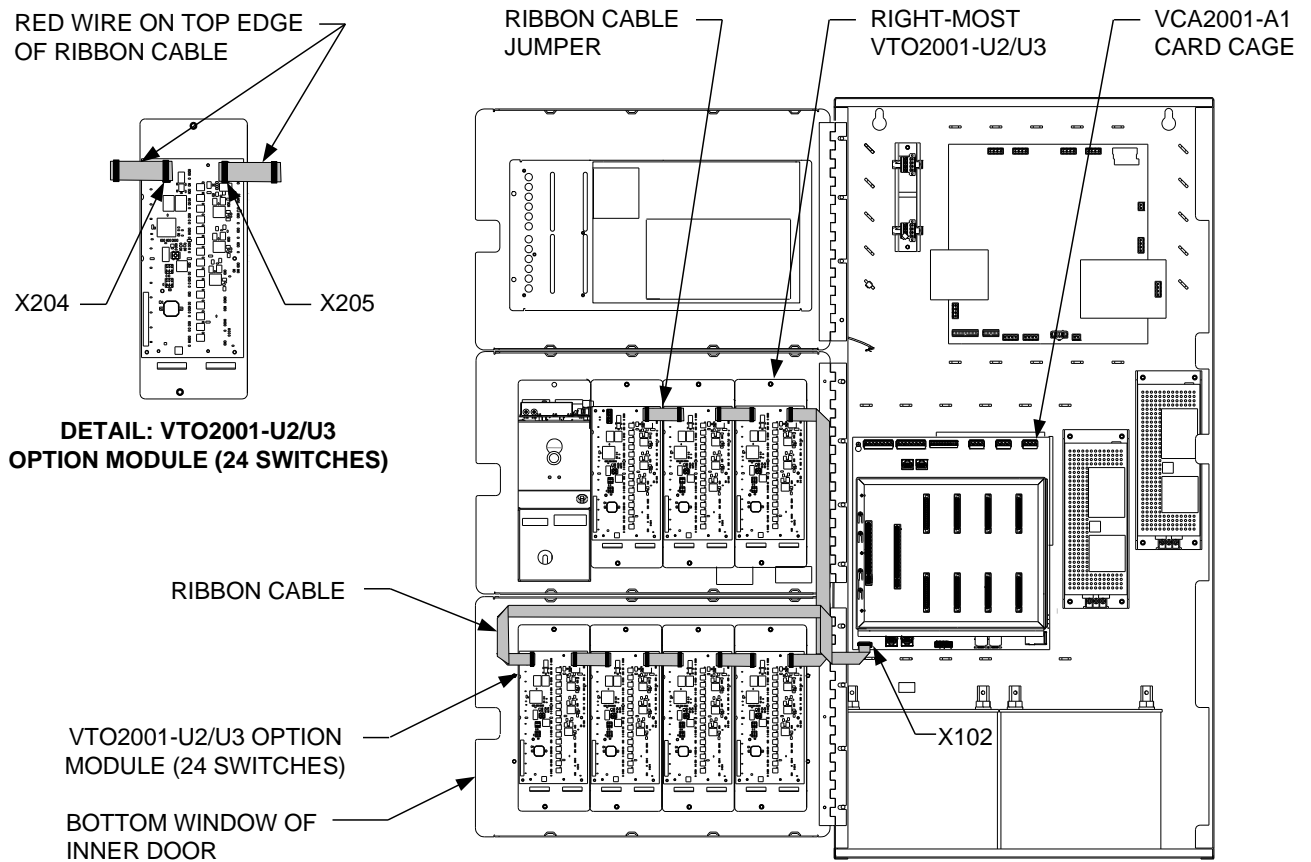

Figure 6
- If there are no VTO2001-U2/U3 modules mounted in the bottom window, use Wiring Procedure 1A, below, and route the ribbon cables as illustrated in Figure 6.
1. Please see Figure 6. Install a 16-conductor ribbon cable between connector X102 located on the lower left corner of the backplane of the VCA2001-A1 Card Cage and connector X205 of the right-most VTO2001-U2/U3 module mounted in the middle window of the FV2025/2050 Panel's inner door.
2. Install ribbon cable jumpers to ‘daisy chain’ all VTO2001-U2/U3 modules mounted in the middle window, as illustrated in Figure 6.
- VTO2004-U2/U3 Option Module (Microphone) (as shown in Figure 6), refer to Siemens Industry, Inc., Building Technologies Division, document number A6V10370377 Installation Instructions for the Model VTO2004-U2/U3 Option Module \(Microphone\) for instructions on wiring the VTO2001-U2/U3 Module to the VTO2004-U2/U3 Module.